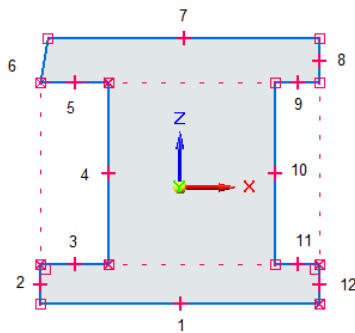

Figure 3-34 Outer loop of the profile
- Draw the outer loop of the profile by using the **Line** tool, refer to Figure 3-34.
4. Draw the sketch of the outer loop, as shown in Figure 3-34. As is evident from this figure that the sketch is drawn around the origin. It is not symmetric at this stage but it will become symmetric after adding all relationships and dimensions. You can use the alignment indicators to draw the sketch. For your reference, the lines in the sketch are indicated by numbers.